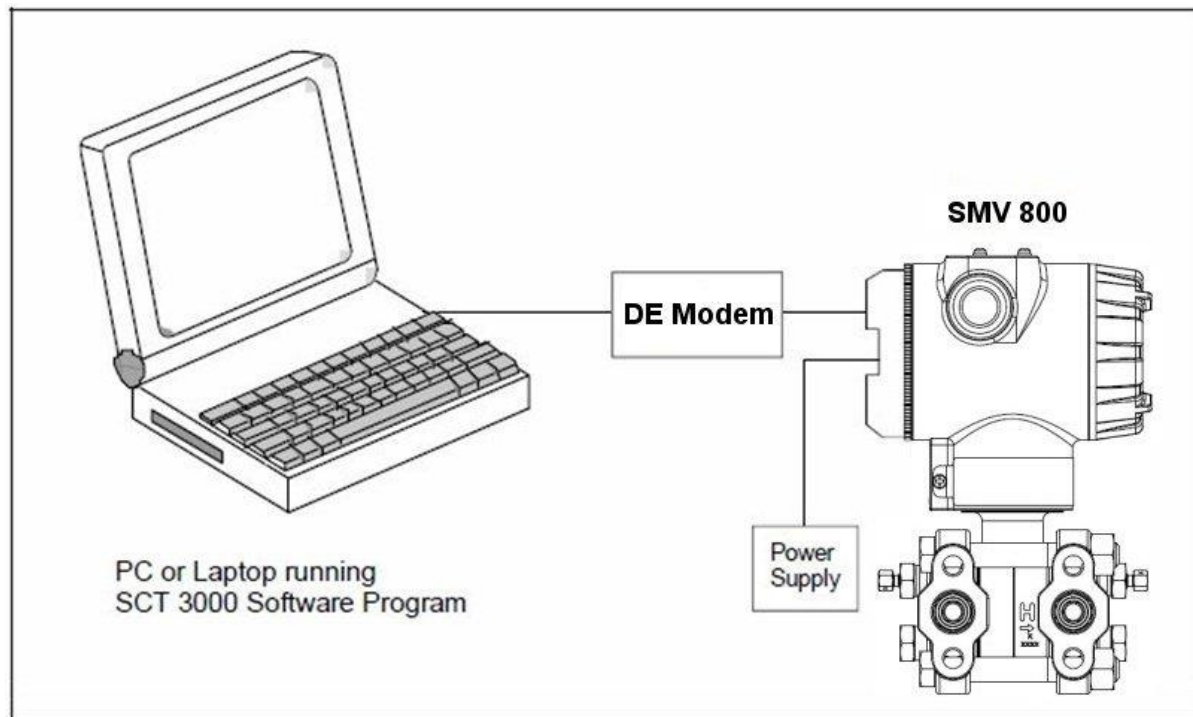

Figure 8 - SmartLine Configuration Tool
Honeywell's SCT 3000 SmartLine Configuration Toolkit is a cost-effective means to configure, calibrate, diagnose, and monitor the SMV800 and other smart field devices. The SCT 3000 runs on a variety of Personal Computer (PC) platforms using Windows XP® and Window 7®. It is a bundled Microsoft Windows software and PC-interface hardware solution that allows quick, error-free configuration of SMV transmitters. Figure 8 shows the major components of the SCT 3000.